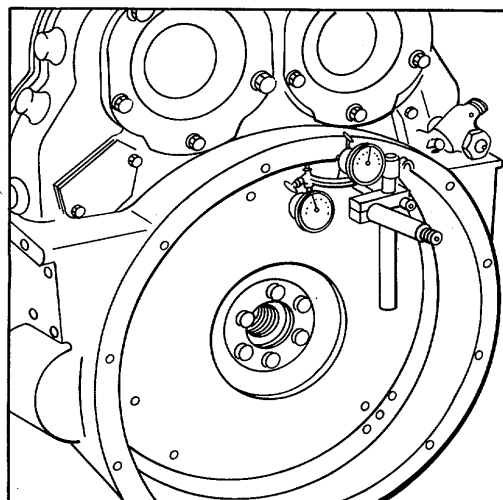

Figure 5. Checking Flywheel Housing Concentricity
- a. Refer to Fig. 5 and thread the base post J 9737-3 tightly into one of the tapped holes in the flywheel. Then assemble the dial indicators on the base post.